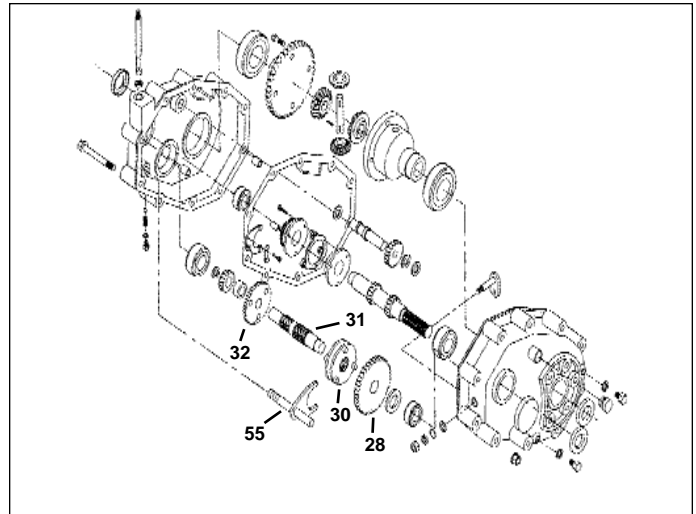

**Figure 1 - Starting System Lockout**
**Console shift assembly** is a side to side shift lever with an “over-center” system to ensure full transaxle gear engagement. For safety, a starting system lockout is used to prevent the vehicle from starting if transmission is not fully engaged. See Figure 1.
3. Disconnect wire harness from starting system lockout micro switches. See Figure 1.